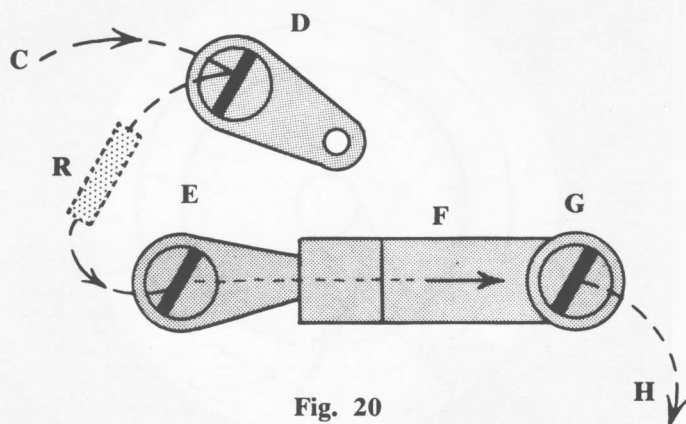
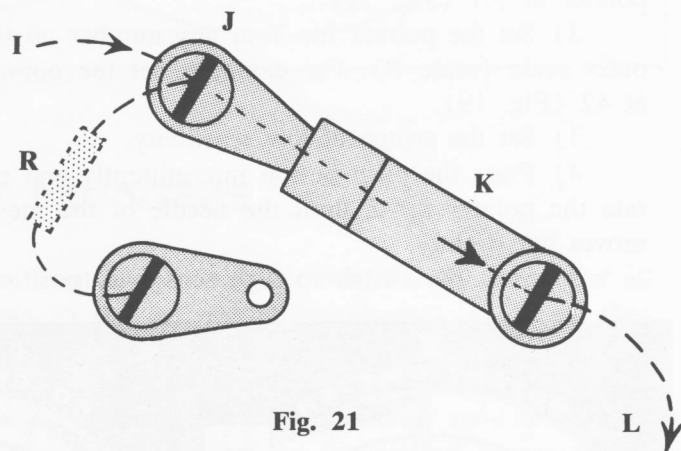

Fig. 20
Fig. 21
The purpose of starting with a low sensitivity position is to prevent possible damage to the meter. Fig. 20 shows the switch from the top of the computer box. The wires and resistor (R) are shown in dotted lines because they are underneath the box. Fig. 21 shows the position of the switch arm when it is in contact with the low sensitivity terminal (E). The current (shown by arrows) then flows from C to D, through R to E, across the switch arm F and out through G and H.
It is then safe to shift to the high sensitivity position (Fig. 21). Then the current flows directly from I to J through K and out through L without reduction by the resistor (R).